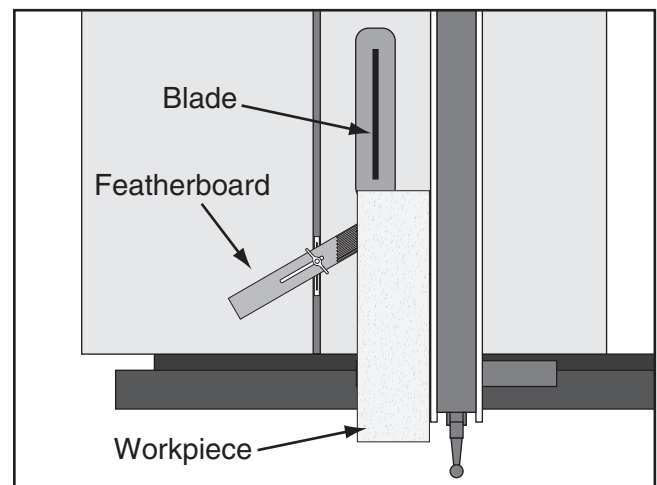

Figure 68. Featherboard installed in miter slot and supporting workpiece for ripping cut.
3. Slide the featherboard miter bar into the miter slot, making sure the fingers slant toward the blade, as shown in **Figure 68**.